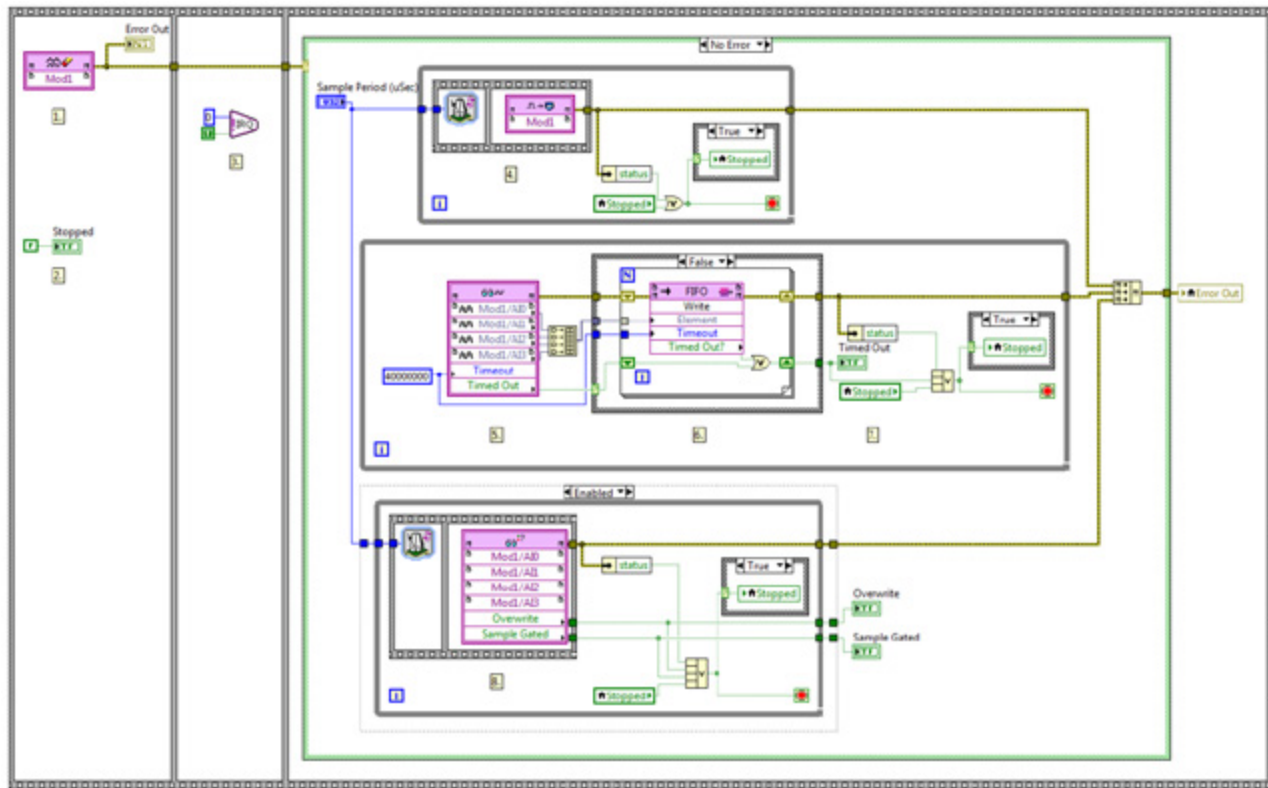

Figure 6.9. NI 9223 User-Controlled IO Sampling.lvproj Example Program
When programming with the user-controlled sample method, you may find it easier to start with an existing example program that is shipped with LabVIEW. Figure 6.9 is the block diagram from the NI 9223 User-Controlled IO Sampling.lvproj, which you can find in the NI Example Finder.
To program with the user-controlled I/O sample method, follow these steps that reference the example program in Figure 6.9.
8. Call the Get Read I/O Status function at the same rate you call the Generate I/O Sample Pulse function. This checks the status of every sample you acquire. If an “overwrite” or “sample gated” occur (output = true), then report the status to the host and stop the VI. In the example, this loop is encased in a diagram disable structure to make it easily removable from the application. Calling the Get Read I/O Status function is useful for development and debugging but not strictly necessary for deployment if the application does not feature variable timing in the application. In the Figure 6.9 example, you cannot obtain a sample gated status unless the top loop’s sample period is less than the minimum sample period supported by the module. However, this application could produce an overwrite status if the host VI cannot read from the DMA FIFO fast enough.